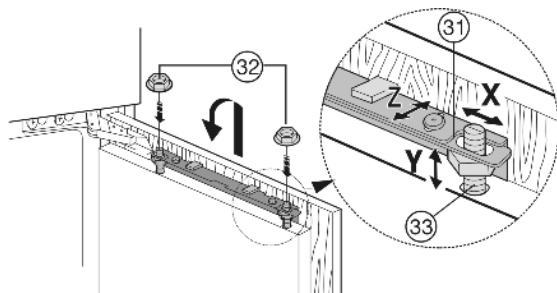

Fig. 27
- ▶ Attach the unit door to the adjusting bolts Fig. 27 (33) and loosely screw the locknuts Fig. 27 (32) onto them.
- ▶ To align the unit door in height and lateral inclination: set the adjusting bolts Fig. 27 (33) with a screwdriver.
- ▶ Tighten counternuts Fig. 27 (32).